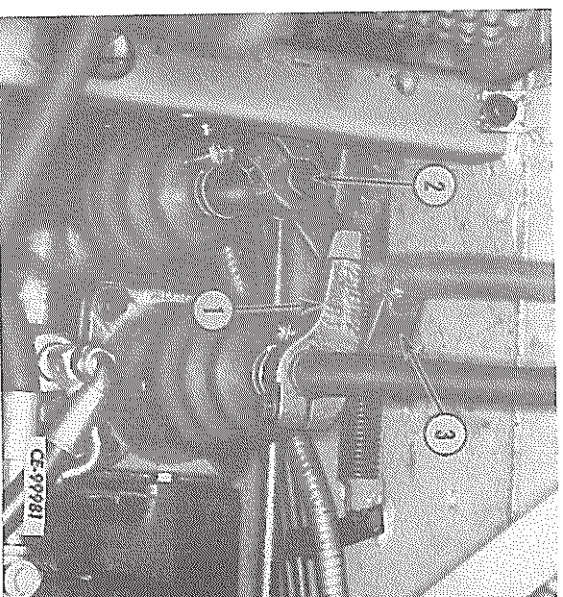

FIG. 33 — Gear Shift Lock Out Lever
back and forth to be sure a minimum clearance of 3mm (1/8 in.) exists between the lock out lever (1, Fig. 33) and the top of the pivot lever (2). If necessary, adjust the location of the lock out lever on the gearshift hand lever in fifth gear and the forward-reverse lever in the forward position. Check that the tab (3) on the forward-reverse lever engages the machined notch in the lockout lever (1). If necessary, bend the tab (3) as required to obtain this engagement.
Legend for Fig. 33